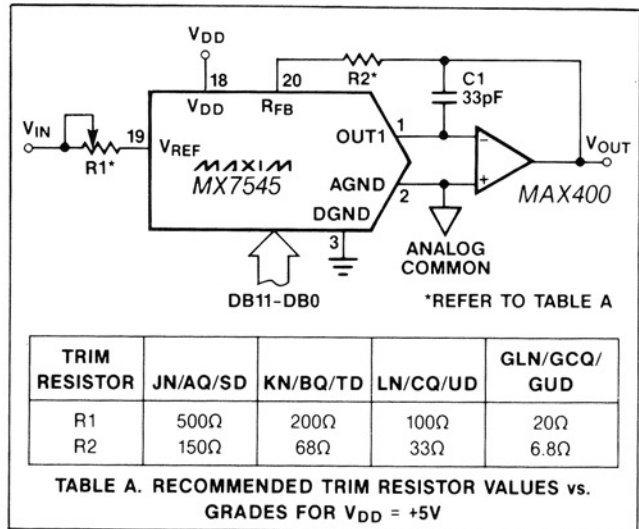
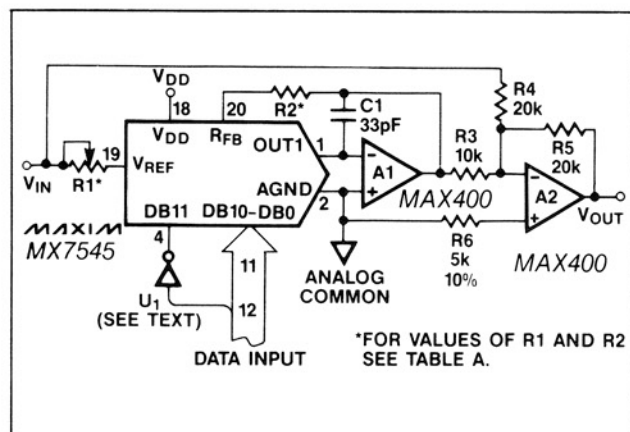

Figure 3. Unipolar Binary Operation
Figure 4. Bipolar Operation (2's Complement Code)
**Note 1:** Using internal feedback resistor, RFB. DAC register loaded with 1111 1111 1111. Gain error is adjustable using the circuits of Figures 3, 4 and 8.
Either current output can be converted into a voltage externally by adding an output amplifier (Figure 3). The  $V_{REF}$  input accepts a wide range of signals including fixed and time varying voltage or current inputs. If a current source is used for the reference input, then a low temperature coefficient external resistor should be used for  $R_{FB}$  to minimize gain variation with temperature.
The most common configuration for the MX7545 is shown in Figure 3. This circuit is used for unipolar binary operation or two-quadrant multiplication. The
Table 1. Unipolar Binary Code Table for Circuit of Figure 3
In many applications the gain adjustment will not be necessary, especially when using the "G" suffix parts with guaranteed maximum  $\pm 1$  LSB gain errors. In those cases and also when the gain is trimmed at the reference source, resistors R1 and R2 in Figure 3 can be omitted. However, if the trims are desired and the DAC is operated over a wide temperature range, then low tempco ( $<300ppm/^{\circ}C$ ) resistors should be used for R1 and R2.
With the circuit configuration shown in Figure 4, the MX7545 operates in the bipolar, or 4-quadrant multiplying mode. A second amplifier and three matched resistors, R3, R4 and R5 are required. These resistors must be of the same material (preferably metal film or wire-wound) for good temperature characteristics, and they should match to 0.01% for 12-bit performance.
Table 2. 2's Complement Code Table for Circuit of Figure 4
To adjust the circuit with offset binary code, load the DAC with a code of 1000 0000 0000 and trim R1 for a 0V output. With R1 and R2 omitted, an alternative zero trim is to adjust the ratio of R3 and R4 for 0V out. Full scale can be trimmed by loading the DAC with all "zeros" or all "ones" and adjusting the amplitude of  $V_{REF}$  or varying R5 until the desired positive or negative output is obtained. In many applications the gain adjustment will not be necessary, especially when using the "G" suffix parts with guaranteed maximum  $\pm 1$  LSB gain errors. In those cases and also when the gain is trimmed at the reference source, resistors R1 and R2 in Figure 4 can be omitted. However, if the trims are desired and the DAC is operated over a wide temperature range, then low tempco ( $<300\text{ppm}/^\circ\text{C}$ ) resistors should be used for R1 and R2.
Figure 6. Differential Nonlinearity vs.  $V_{DD}$  for Figure 4 Circuit. Reference Voltage = 2.5 Volts. Shaded Area Shows Range of Values of Differential Nonlinearity that Typically Occur for L, C and U Grades.
The unipolar and bipolar circuits in Figures 3 and 4 can all be converted to voltage output mode. For example, Figure 8 shows the 2's complement bipolar circuit of Figure 4 modified to work with an output range of +2V to +8V around an offset ground potential of +5V from a single supply,  $V_{DD}$ , of +10V to 15V. The REF02 reference is used to bias the AGND at +5V. The R1 and R2 resistors form a voltage divider together
Figure 7. Differential Nonlinearity vs. Reference Voltage for Figure 4 Circuit.  $V_{DD}$  = 15 Volts. Shaded Area Shows Range of Values of Differential Nonlinearity that Typically Occur for L, C, and U Grades.